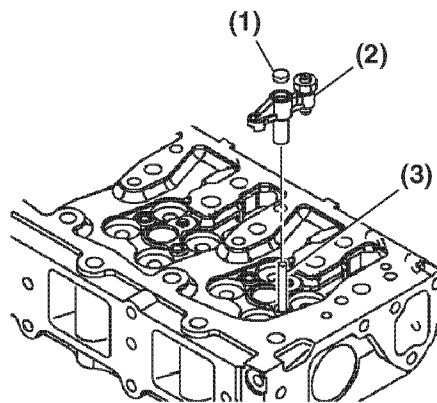

Figure 6-61
Visually inspect the contact surface at both ends of the valve bridge (**Figure 6-61, (2)**) for excessive wear or mushrooming.
Remove and inspect the seat (**Figure 6-61, (1)**).
Measure the diameter of the valve bridge guide pin bore in the valve bridge and guide pin (**Figure 6-61, (3)**). See *Rocker Arm and Shaft* on page 6-9 for the service limit.